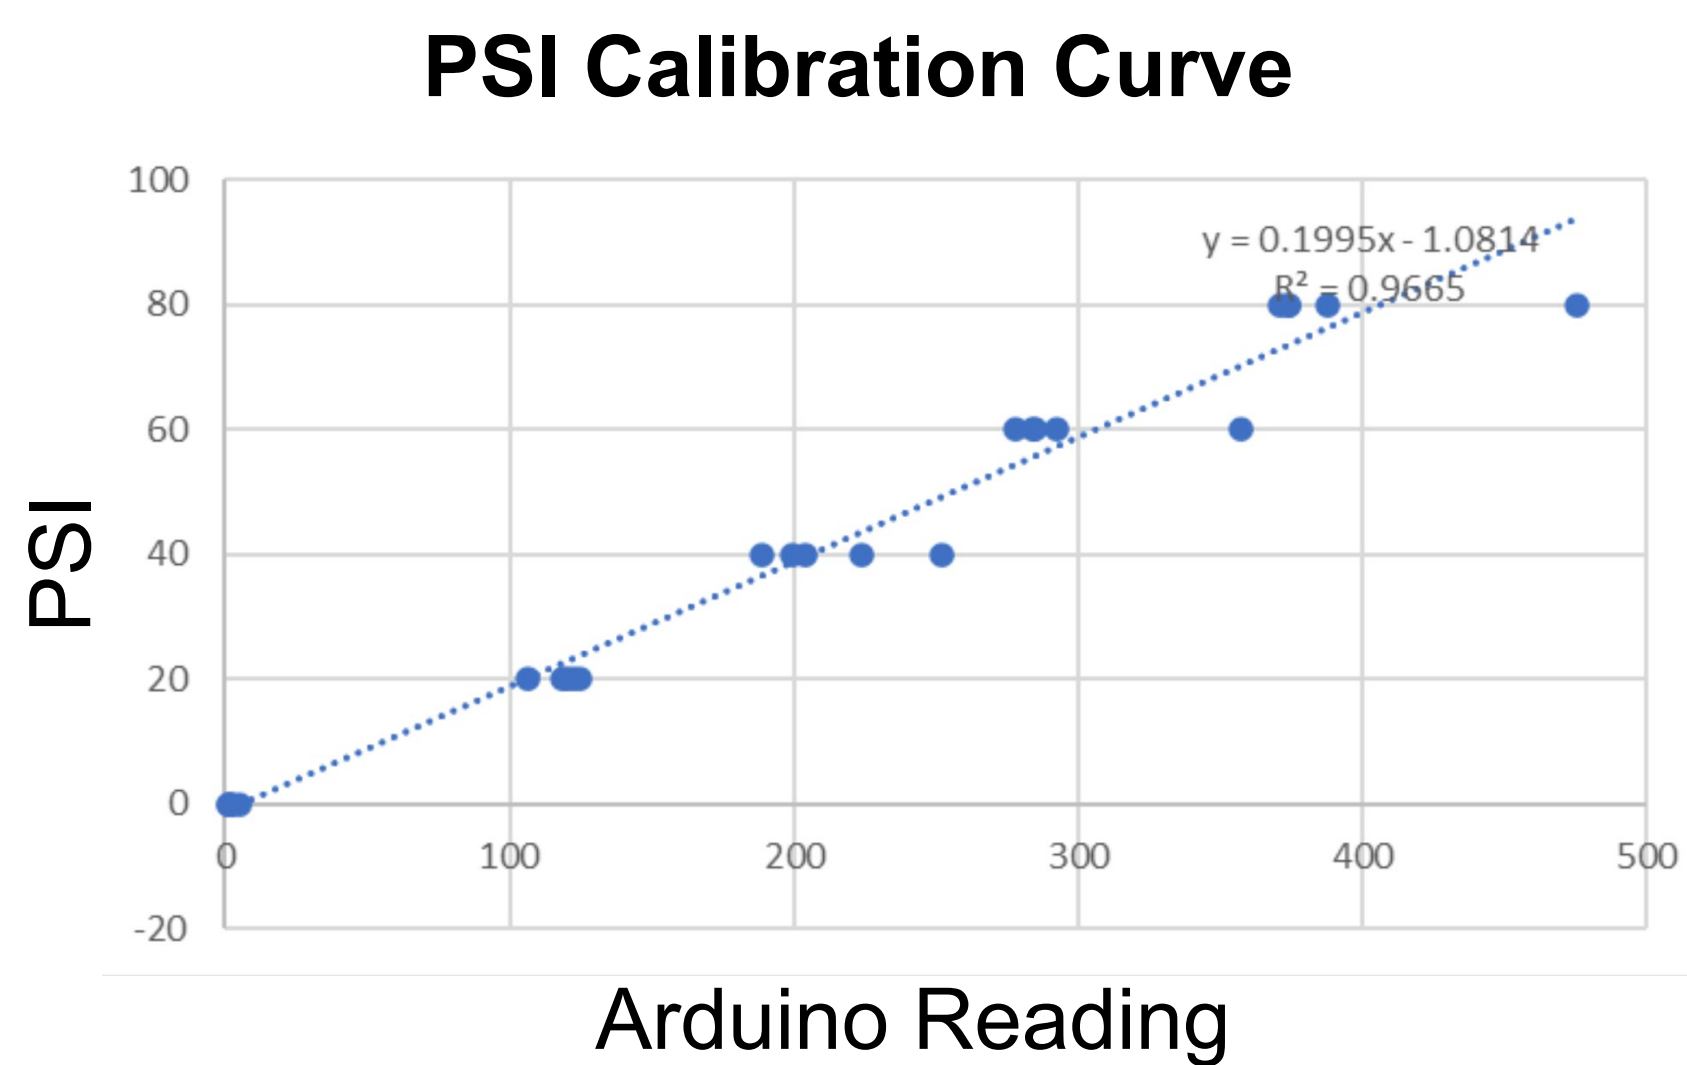

Figure 5:
- Calibration curve** to convert from deformation to PSI readings (Figure 5)